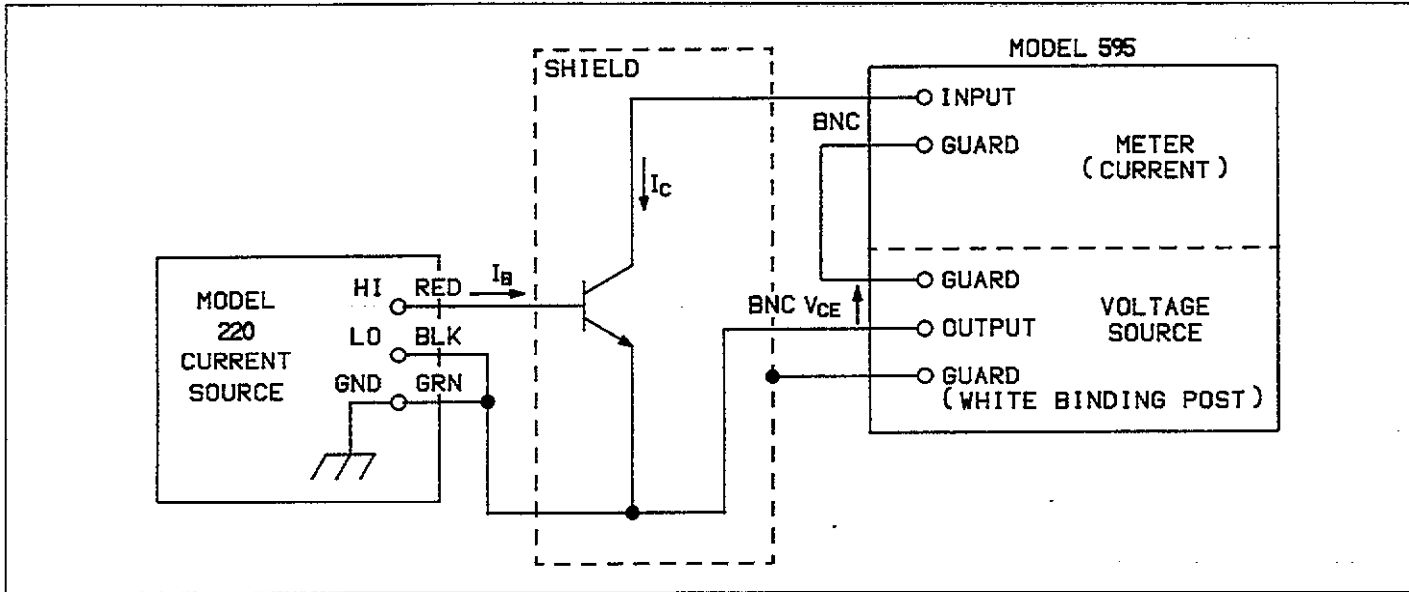
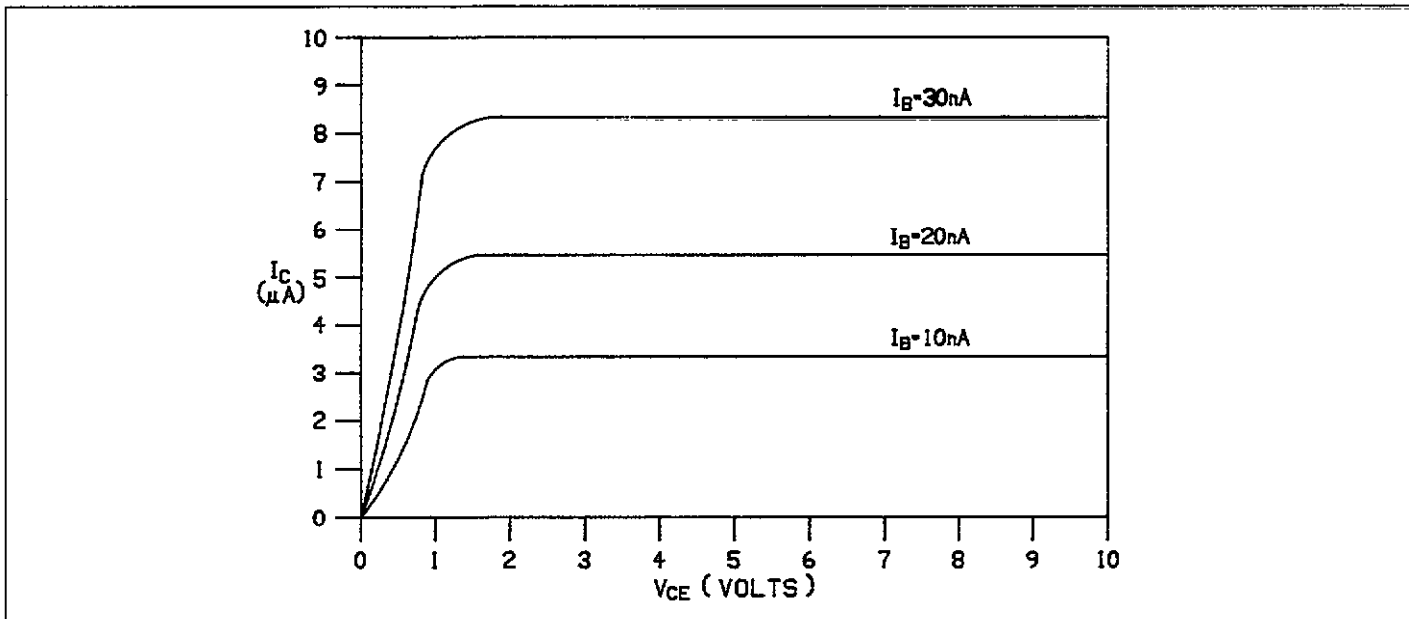

Figure 5-3. Connections for Bipolar Common-Emitter IV Characteristics
Figure 5-4. Typical Bipolar Common-Emitter Characteristics
**Common Emitter Characteristics:** Data for common emitter characteristics are generally obtained by setting the base current ( $I_B$ ) to a known value and measuring the collector current ( $I_C$ ) as the collector emitter voltage ( $V_{CE}$ ) is varied. The circuit for this measurement is shown in Figure 5-3. This process is then repeated for a number of base current settings. Data may be plotted showing characteristics such as those in Figure 5-4.